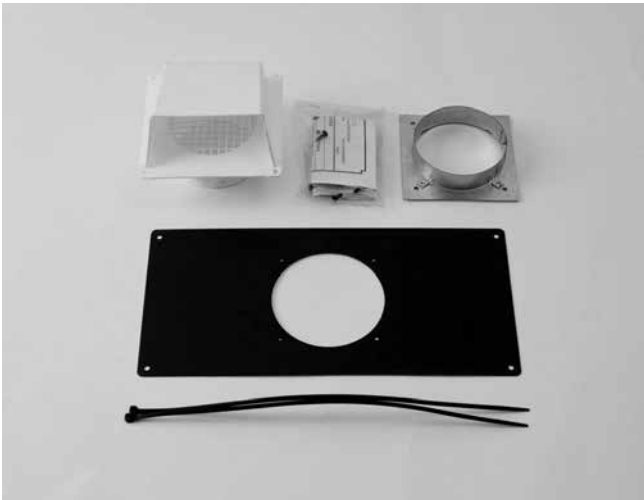

Figure 5.9
Included in kit: Termination cap, (2) wire ties, pedestal coverplate, flex adapter, and fasteners. See Figure 5.9.